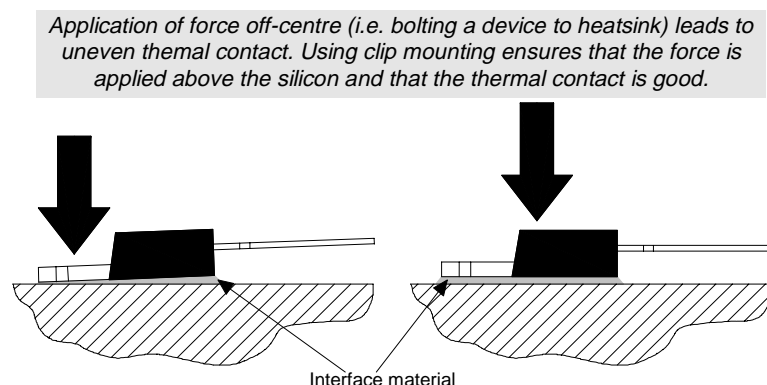

Figure 1.2 - Position of Force Application
- Clips impart their force on the central part of the package over the silicon, distributing the pressure evenly which creates a good thermal contact with the heatsink. Bolts however, impart the force at one end of the package and the pressure is uneven, see Figure 1.2.